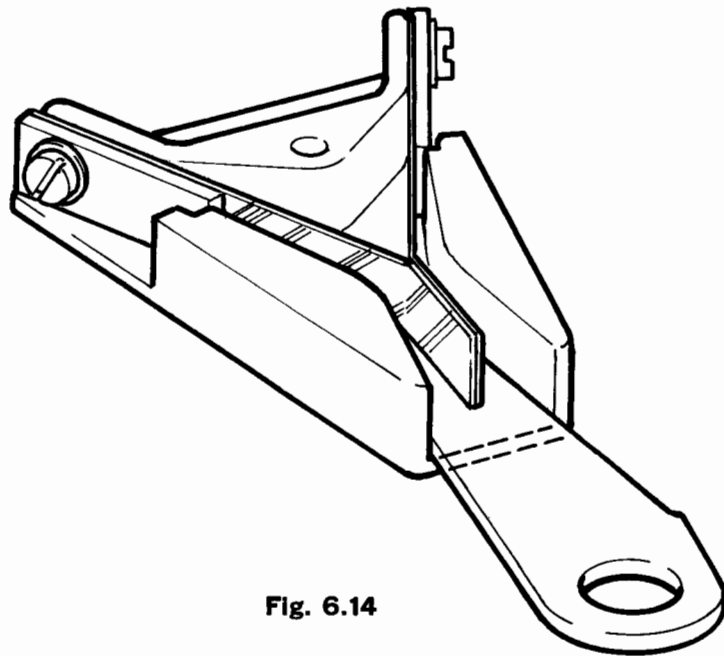

Fig. 6.14
4. Fit the locating washer observing the same as in point three (3).
- Fig 6.14 1. Turn brake shoe A and check that springs B do not touch the brake housing at point C.
- Adjustment: Insert a feeler gauge 11.587.440.00 (1.1 ± 0.1 mm) as to Fig 6.14. Loosen the retaining screws holding the brake springs and adjust the springs. Tighten the retaining screws and remove feeler gauge and repeat checks 1 and 2.